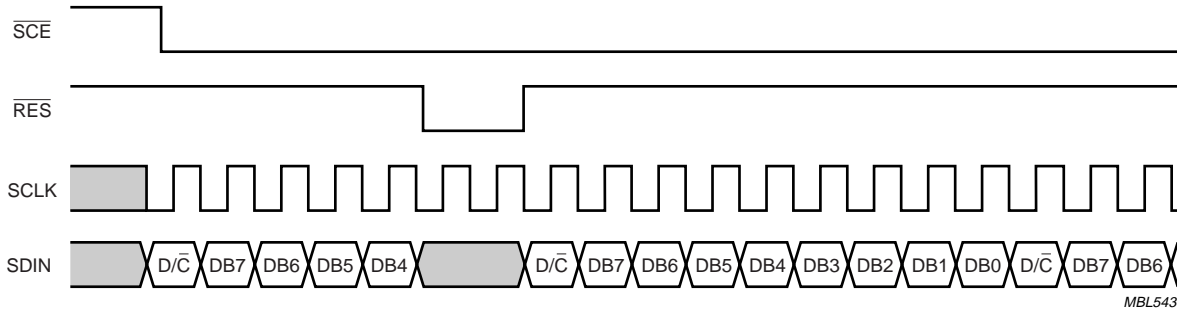

Fig.20 Write mode - interrupted by reset (\overline{RES}).
- A reset pulse with \overline{RES} interrupts the transmission. The data being written into the RAM may be corrupted. The registers are cleared. If \overline{SCE} is LOW after the rising edge of \overline{RES} , the serial interface is ready to receive the D/\overline{C} bit of a command/data byte (see Fig.20).